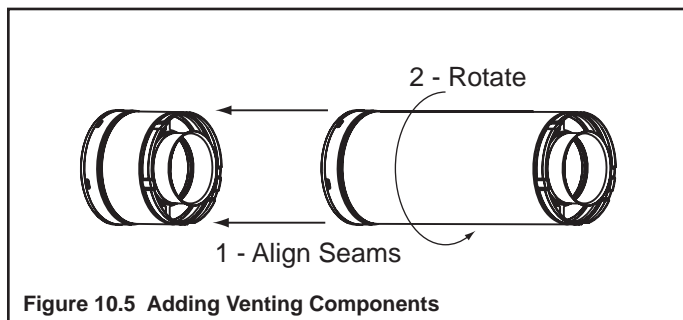

Figure 10.5 Adding Venting Components
- Align the seam of the pipe and seam of collar to allow engagement. Rotate the vent component to lock into place. Use this procedure for all vent components. See Figure 10.5.